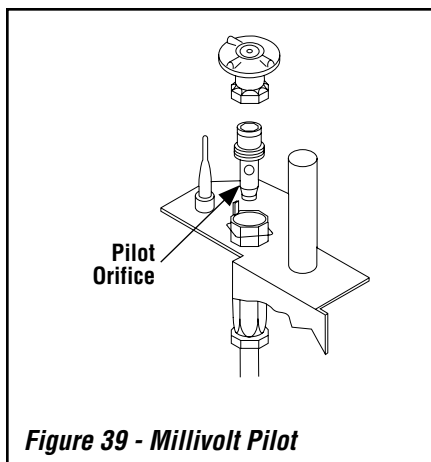
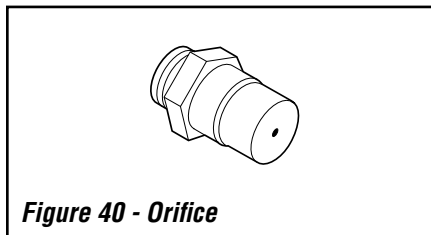

Figure 39 - Millivolt Pilot
Figure 40 - Orifice
Step 4. Refer to **Figure 39**. Remove the pilot hood assembly to access the hexed pilot orifice. Remove and replace the orifice with the one provided with the kit. Exercise extreme care to prevent damage to or breakage of the igniter assembly. **Step 5.** Remove the burner orifice from the manifold and replace it with the one provided in the kit. See **Table 8** for orifice sizes for natural and propane models. **Figure 40** illustrates the orifice.